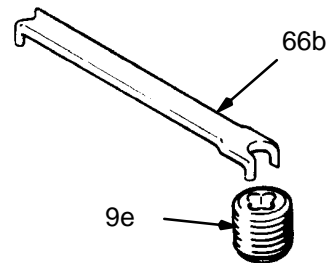

Fig 14
4. Unscrew the packing nut (9e) using the wrench (66b) supplied. See Fig 14.